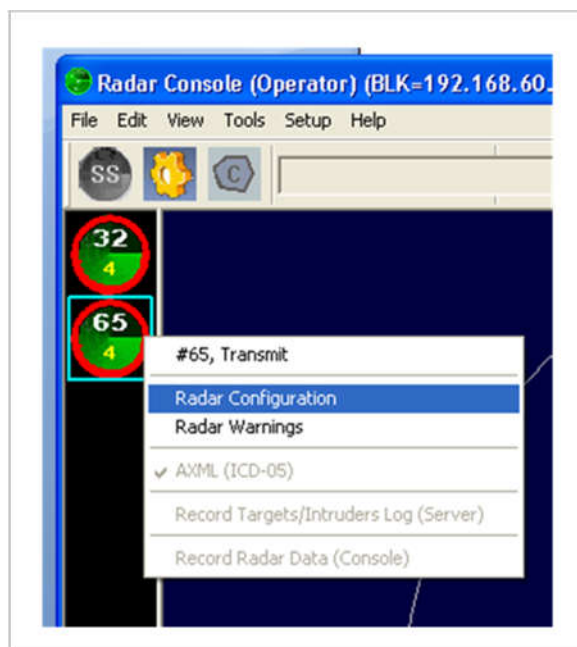

Figure 62 - Exporting Radar Parameters (Step 2)
- Step 2 In Radar Console, select a radar and right click on it. Select Radar Configuration (Figure 62)